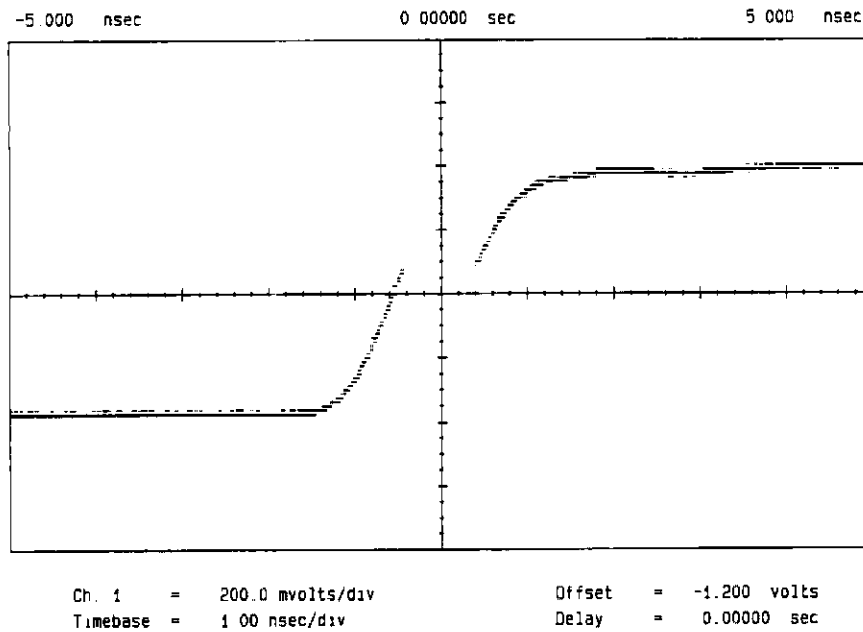

*Figure 4-4. Leading edge with area of discontinuity (no data present).*
4. Observe display for a waveform area where no data is present. Refer to figure 4-4.